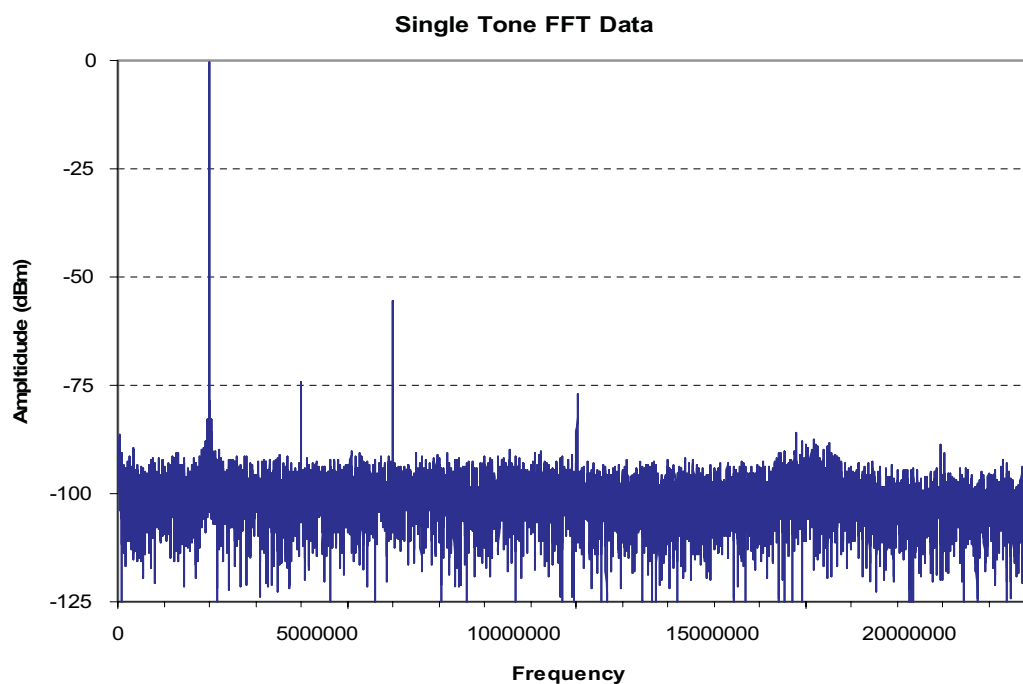

Figure 26. Single Tone FFT Test Data Plot in EXCELL
3. In this example, the saved data was brought up to excel to plot as shown in Figure 26.